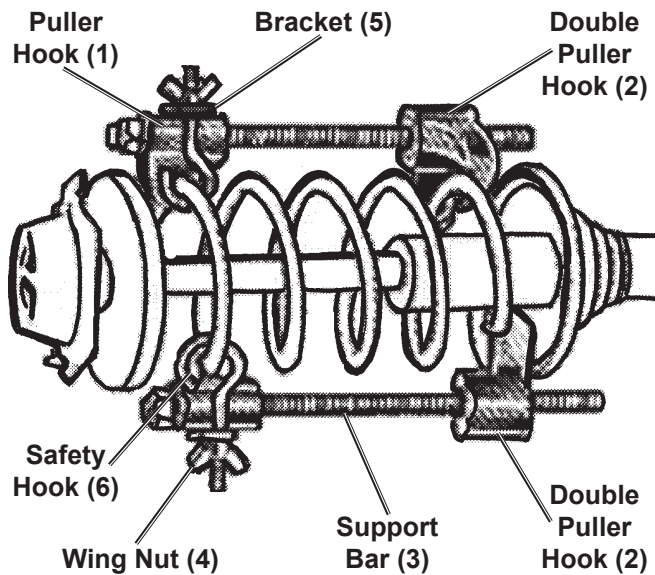

Figure 4 – Safety Hook Positioning
8. Place one Safety Hook (6) on each side of the Puller Hook (1) and around each strut spring, as shown in Figure 4.
9. Place the Bracket (5) over the two threaded ends of two Safety Hooks (6). The Brackets (5) should hold the two Safety Hooks (5) together next to the Puller Hook (1).
10. Thread one Wing Nut (4) onto each Safety Hook (6) then tighten the Bracket (5) against the Puller Hook as shown in Figure 4. The Wing Nuts (4) should be finger tight.